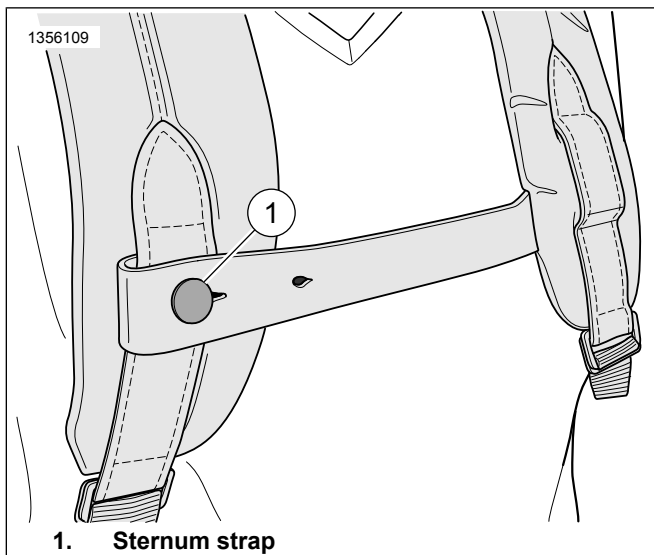

Figure 8. Backpack Bag
2. Figure 8 Attach sternum strap (1) across chest for added security.